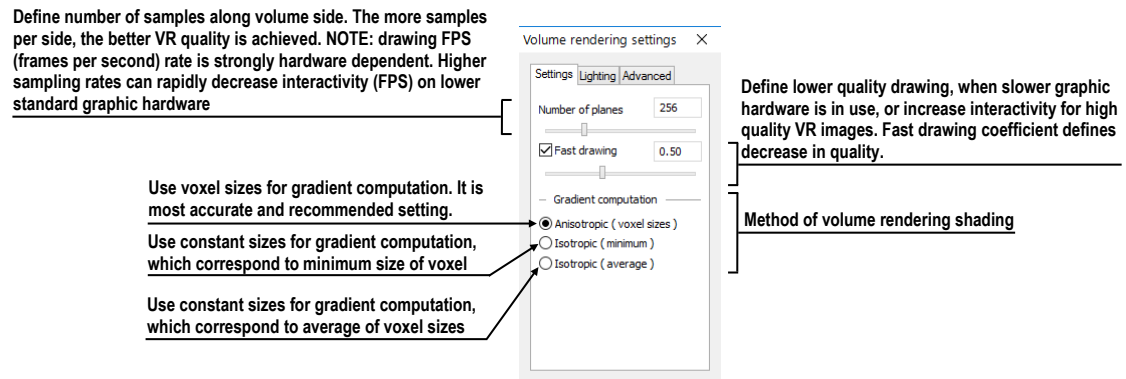

Figure 344 - Volume rendering settings, the first tab
- basic volume rendering quality on the first tab (see Figure 344)